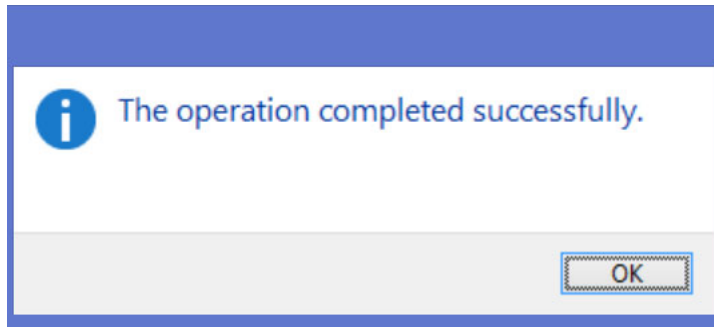

Figure 5. ISL9241 Successful Driver Installation
- (3) The message in Figure 5 appears when the driver is successfully installed.